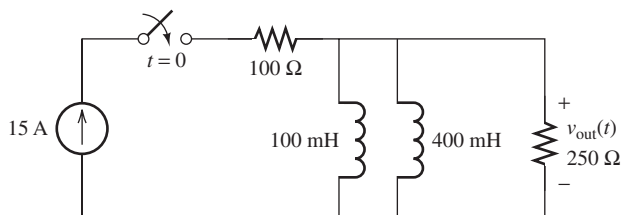

FIGURE P5.28 Circuit for Problem 5.28.
- 5.28 (A)* Find the voltage, $v_{out}(t)$, shown in Figure P5.28. Assume that the switch is closed at $t = 0$.